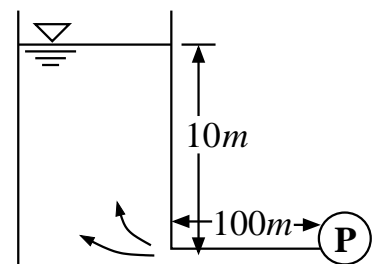

Fig. 2: Pumping water.
- (10 pts) A pump moves water into a very large tank at a flow rate of $Q = 0.01\text{ m}^3/\text{s}$ through $L = 100\text{ m}$ of hydrodynamically smooth pipe (Fig. 2, not shown to scale). The pipe is horizontal and has an inner diameter of $D = 0.075\text{ m}$. At the instant shown, there is an $h = 10\text{ m}$ -deep column of water already in the tank. What pressure, P_p , must the pump step the flow up to at its outlet? Assume $\nu = 1 \times 10^{-6}\text{ m}^2/\text{s}$ and $\rho = 1000\text{ kg}/\text{m}^3$ and that the viscous losses due to the flow entering the tank are characterized by the loss coefficient $K = 1$.